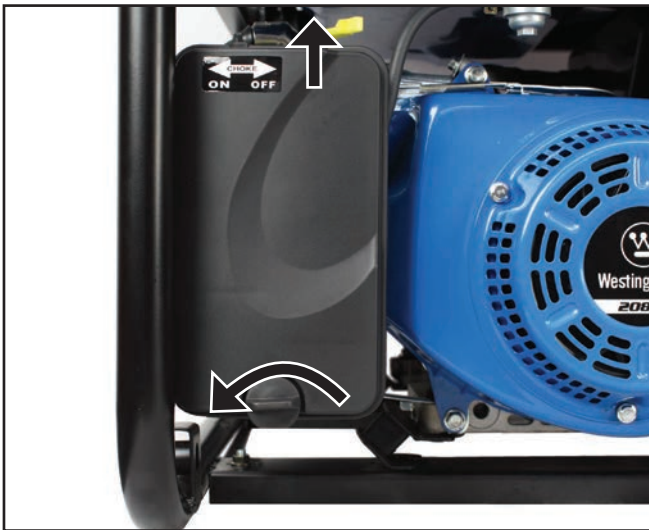

Figure 34 – Removing Air Filter Cover
3. Unscrew the knob at the bottom of the air filter assembly (see Figure 34) anti-clockwise until the air filter cover can move outwards freely.
4. Slowly lift up and disengage the top tabs of the air filter cover (see Figure 34). Clean the air filter cover with a rag and place it aside.